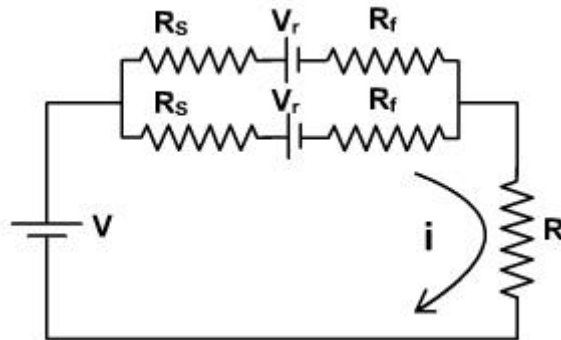

Fig. 7
- (c) When both V_1 and V_2 are same as V , then both the diodes are forward biased and conduct. The resultant circuit using third approximation of diode will be as shown in **Fig. 7**.